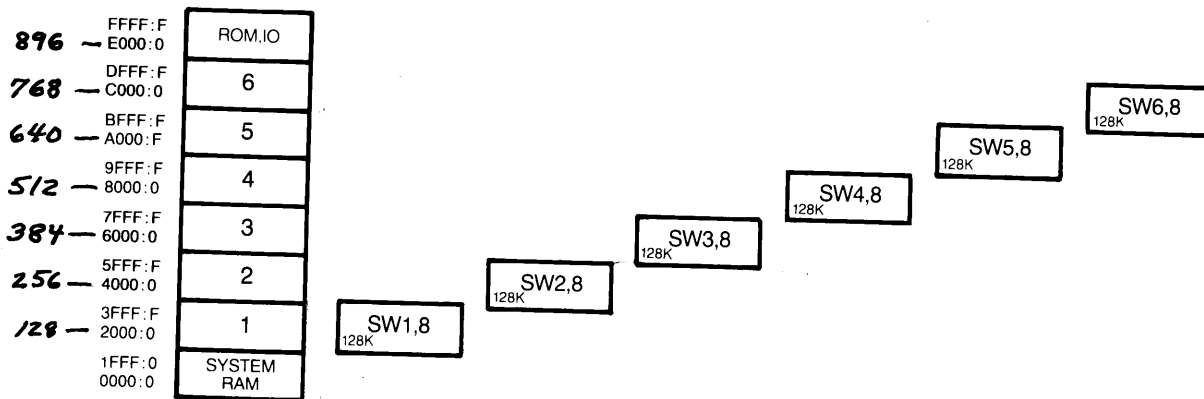
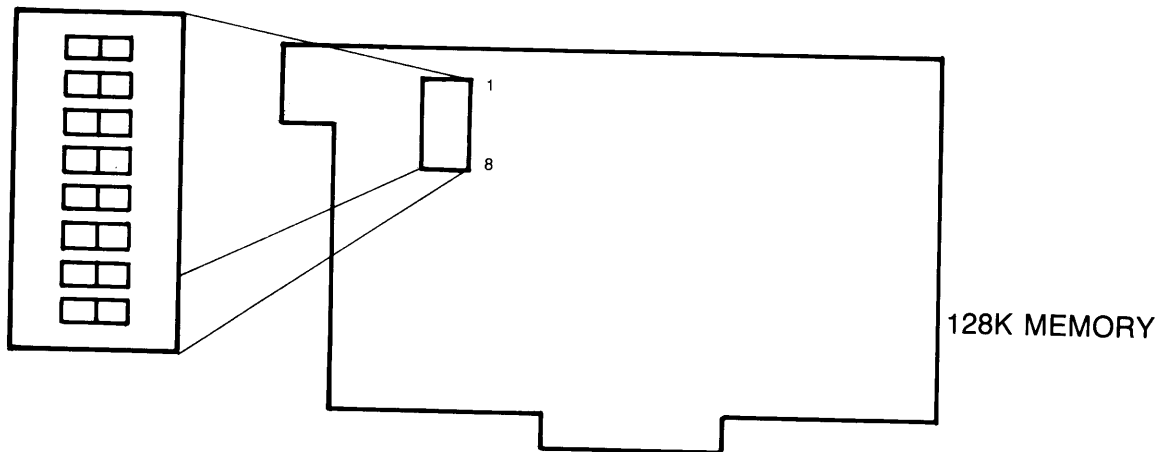

Figure 1: Memory Space Segments
Figure 2: Memory Configuration Switches
Figure 1 shows the 1 Megabyte memory space partitioned into 128K segments. Switch settings (SW) are shown for all possible memory configurations. Figure 2 shows physical location of Switches on the 128K memory board.
The following steps are required to install auxiliary PC boards in the processor. The auxiliary PC board connectors are located on the right side of the processor unit between the speaker and the fan (see Figure 1).